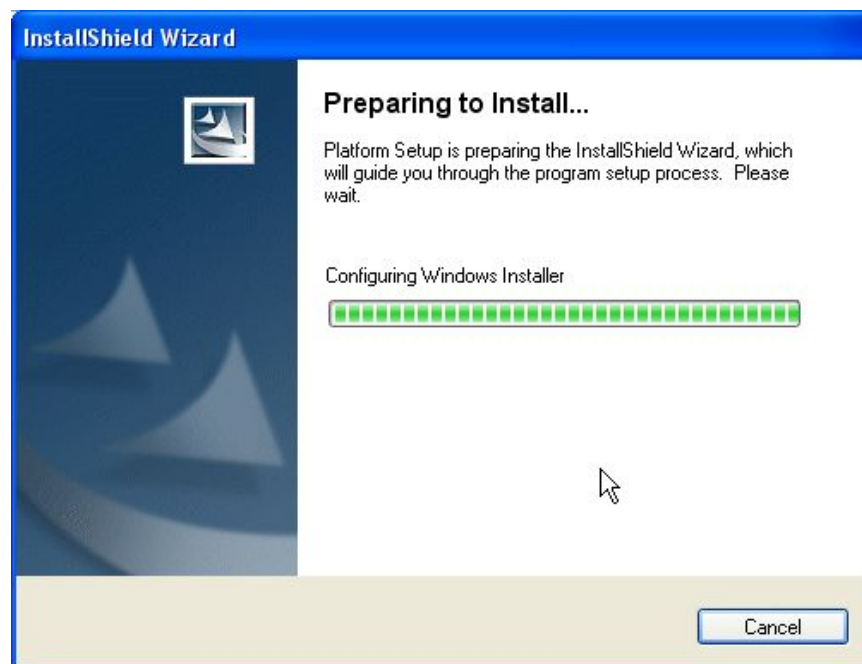

Figure 7-30: Preparing Setup Screen
Step 3: The **Install Shield Wizard (Figure 7-30)** is prepared to guide the user through the rest of the process.